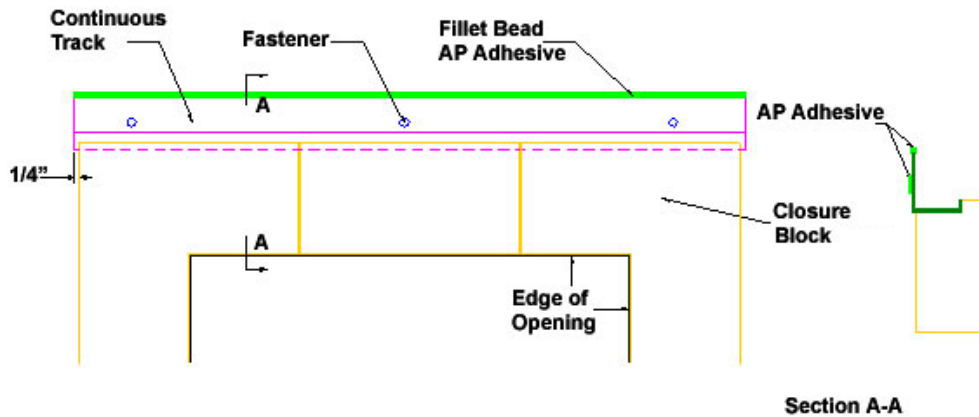

Fig. 16
- i. Cut a piece of Dryvit Track to length so that it extends 1/4 in (6.4 mm) beyond the edge of the Closure Blocks as shown in Figure 16. **NOTE: The Dryvit Track must be continuous. Do not splice!**